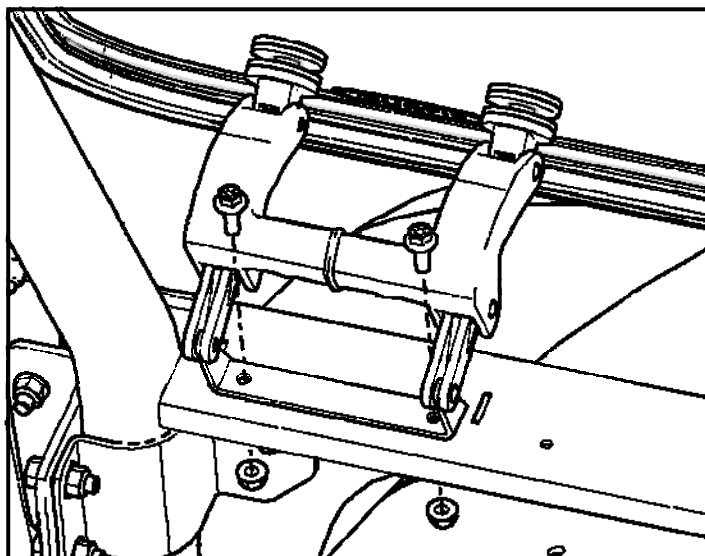

Figure 13.2: Windshield latches
- (4) 1/4-20 Flanged nut
With the latches locked open, secure the windshield latches to the cowl with two (2) 1/4 x 3/4" bolts per latch. Leave loose. (Figure 13.2).